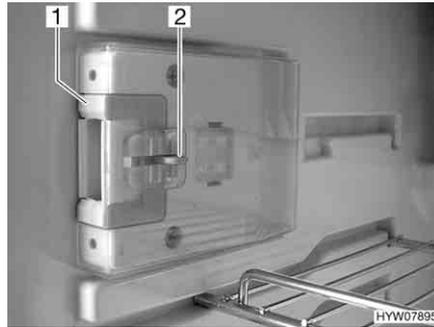
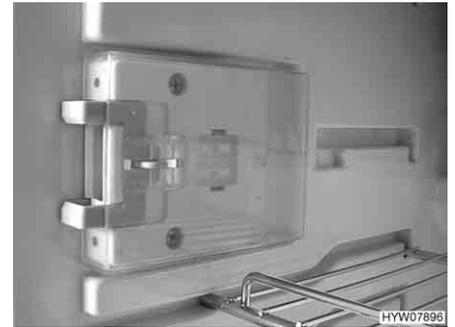

Fig. 227 Locking device in normal position
Fig. 228 Locking device in ventilation position
- Press down the unlocking device (Fig. 227,2).
- Push locking device (Fig. 227,1) forwards (Fig. 228).